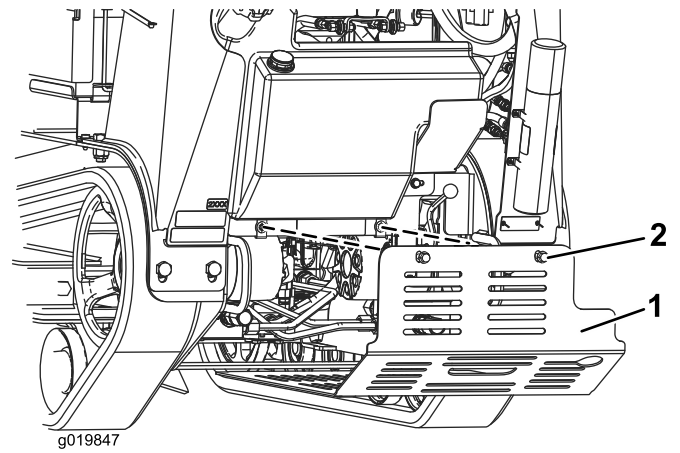

Figure 25
- Loosen the 2 bolts securing the bottom shield sequentially until the shield is free (Figure 25).
- Slide the bottom shield into the machine (Figure 25).